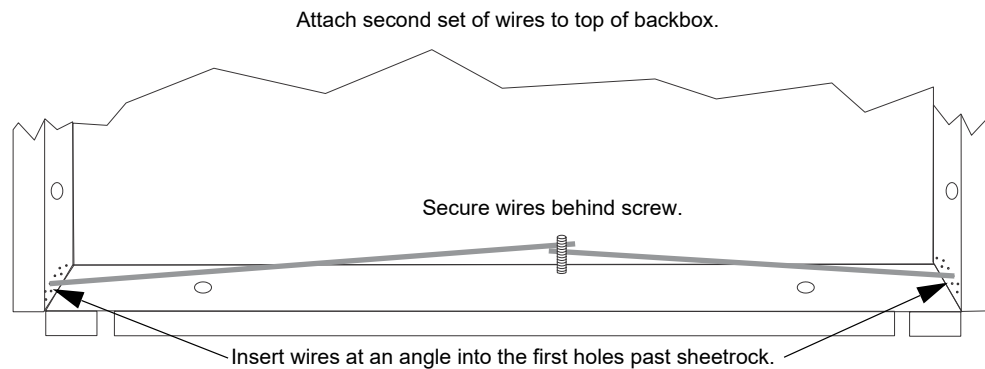

Figure 4.21 Flush Mounting the Backbox
3. Fit the annunciator backbox into the hole and stabilize with mounting wires. Angle the mounting wires into the first hole past the sheet rock. Secure the wires behind the screws as shown in Figure 4.21. When all four wires are in place, the backbox should fit snugly into the hole in the sheetrock.